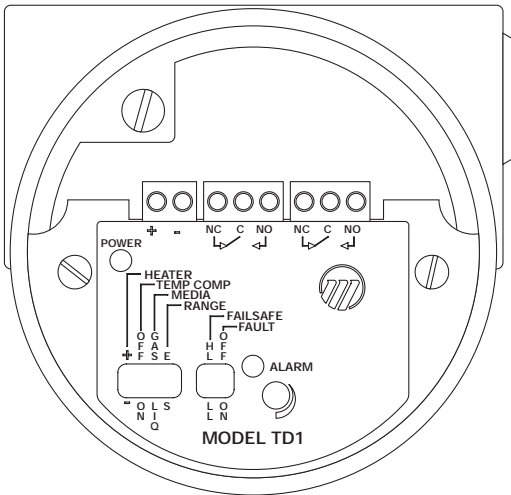
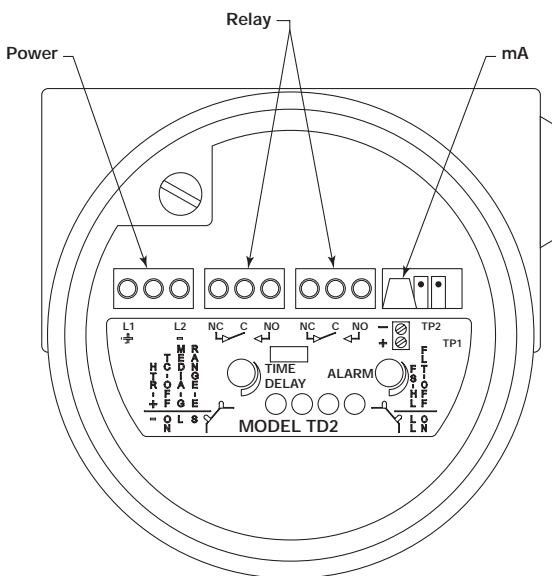

Figure 6
Figure 7
4. Connect power leads to proper terminals. Refer to Figure 6 for TD1 or Figure 7 for TD2 electronics. Note that the TD1 is only available with 24 VDC input power. The TD2 is available for AC power (100 to 260 VAC) or as a DC power (19.2 to 28.8 VDC).
5. Perform Relay Connections (refer to Figure 6 for TD1 or Figure 7 for TD2 electronics).
Wiring of the mA output is shown in Figure 7 on page 3. Wiring should be 16 to 26 AWG.